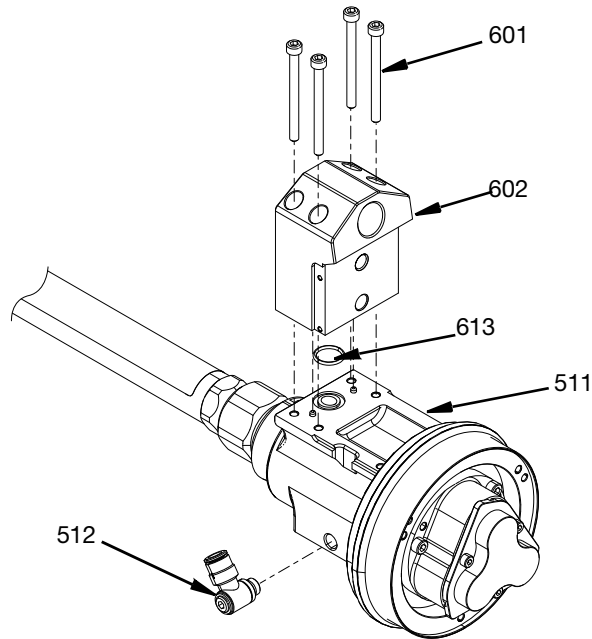

FIG. 35
1. Apply a thin coat of lithium grease to O-ring (613) and locate it on the swivel housing (511). Locate the SST single inlet adapter (602) on the dowel pins and place onto the swivel housing (511). Apply anti seize to the four M5 SHCS screws (601) and torque to 57.5 in-lb (6.5 N•m).
2. Apply a thin coat of lithium grease to the seal on the 1/8 in. BSPP elbow fitting (512). See FIG. 35.